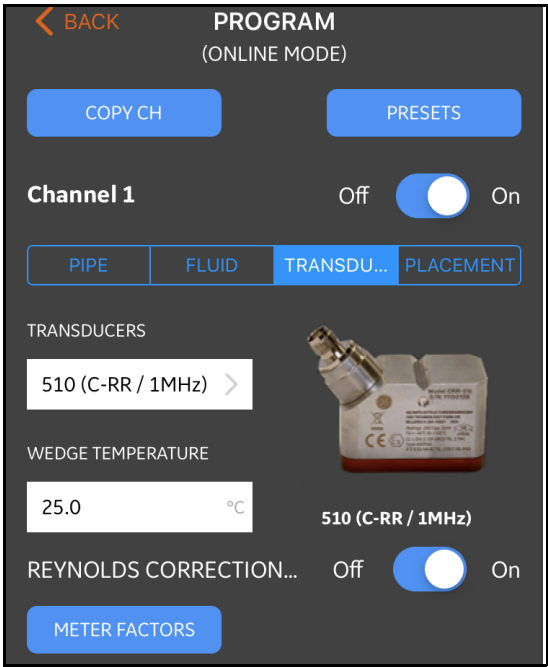

Figure 87: The TRANSDUCERS Menu
The **TRANSDUCERS** menu allows the user to specify all the parameters of the transducers that are required to ensure accurate ultrasonic flow rate measurements. An example of this menu is shown in *Figure 87* below. See the following sub-sections for the options available in programming the transducers.
To program your transducer parameters, refer to *Figure 87 on page 73* and complete the following steps:
2. If you select standard transducer from the drop down, you will need to enter only the **WEDGE TEMPERATURE** (see Figure 87). But if you select **other** as your transducer model, few additional parameters will appear on the screen (see Figure 88) and you must edit this data with the correct specific information.
The **REYNOLDS CORRECTION FACTOR** can be set to either **On** or **Off** (see *Figure 87 on page 73*). This factor corrects the fluid velocity measured across a diametrical path so that it more accurately represents the average fluid velocity across the entire cross-sectional area of the pipe. The **REYNOLDS CORRECTION FACTOR** should be turned **On** for all clamp-on measurements.
To program the **METER FACTOR**, refer to *Figure 87 on page 73* and complete the following steps: